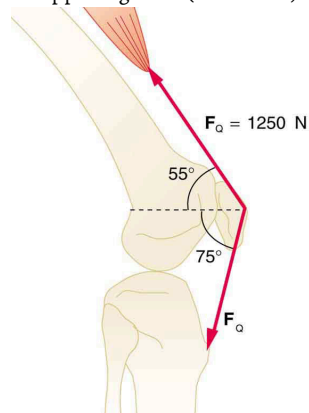

Figure 9.37 The knee joint works like a hinge to bend and straighten the lower leg. It permits a person to sit, stand, and pivot.
28. The upper leg muscle (quadriceps) exerts a force of 1250 N, which is carried by a tendon over the kneecap (the patella) at the angles shown in Figure 9.37. Find the direction and magnitude of the force exerted by the kneecap on the upper leg bone (the femur).